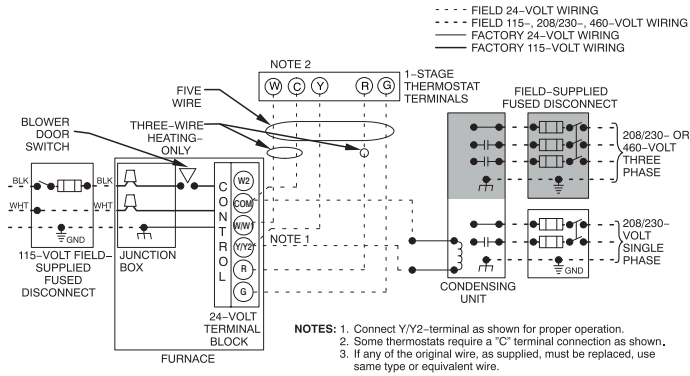

Fig. 32 – Typical Two-Stage Field Wiring Diagram
See Fig. 32 for field wiring diagram showing typical field 115-v wiring. Check all factory and field electrical connections for tightness.
6. Connect power cord power and neutral leads to furnace power leads as shown in Fig. 32.
5. Connect field power and neutral leads to furnace power leads. as shown in Fig. 32.